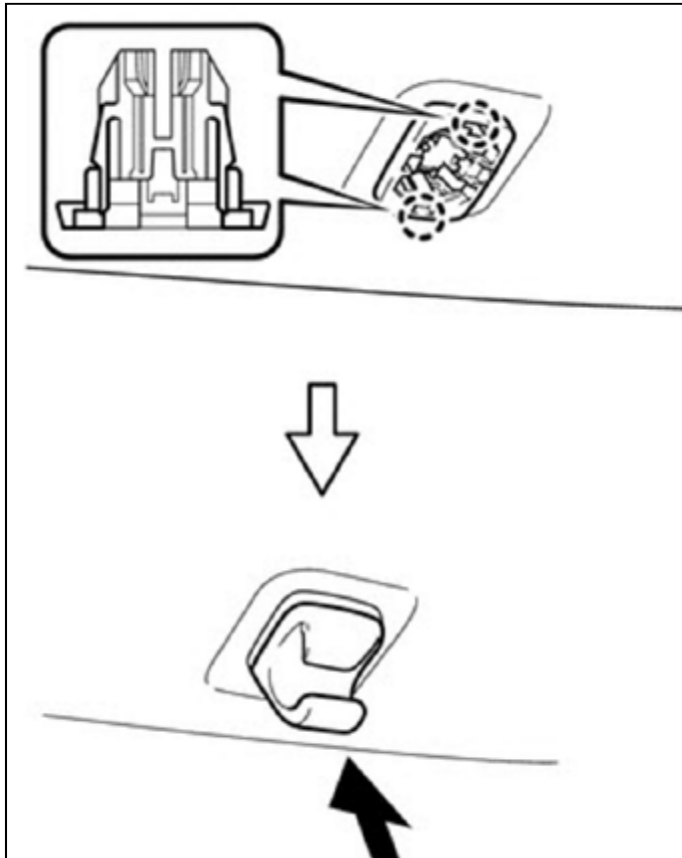

Figure 26
26. Engage the 2 claws. Push in the visor holder as shown in the illustration. See figure 26.